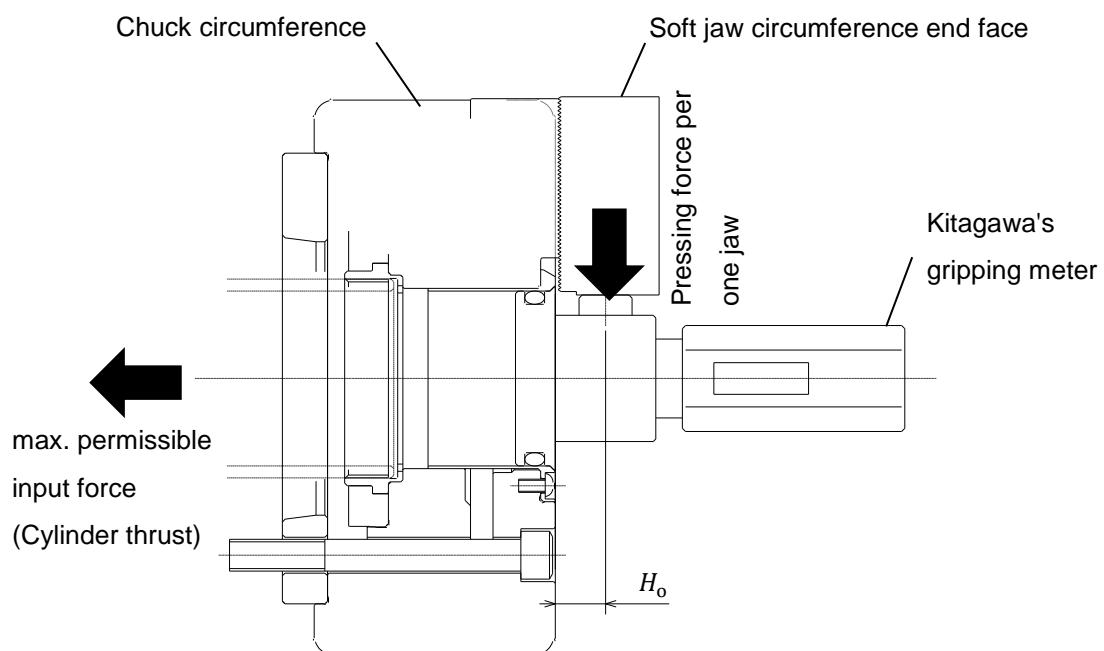

Figure 5 Gripping force measuring method
- The gripping force is measured by the Kitagawa's gripping meter, and the height of the gripping position is as shown in Figure 5. (Also refer to Table 5 on page 13.)